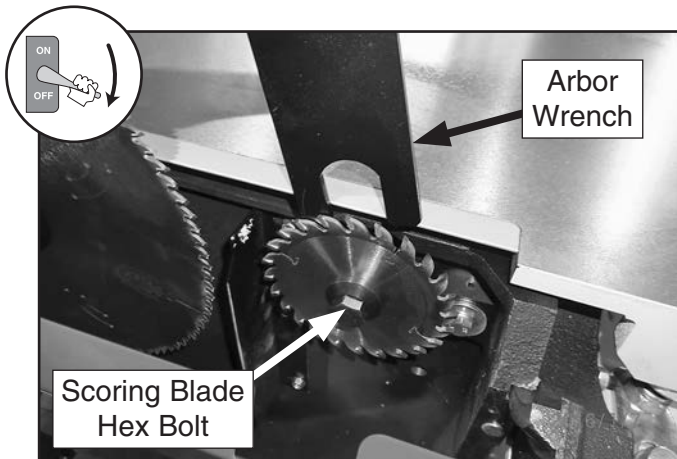

Figure 93. Inserting arbor wrench behind scoring blade to prevent blade from spinning.
- Slide arbor wrench behind scoring blade (see **Figure 93**) to prevent blade from spinning.